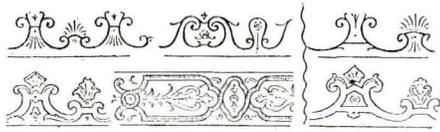
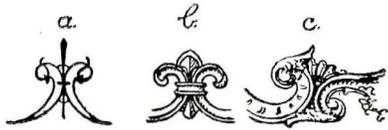

Figure 29
Figure 30.
An interesting subject that has to do with both continuity and contrast is that of "Ties." Elements may be separated, tangent or may cross. In the first case continuity is obtained by a tie which should be either tangent or directly normal to the line of the element, Figure 29. A tie becomes almost necessary when the elements are tangent to each other, Figure 30,* and it is very useful when they interlace, Figure 31 (a'). We have already noted how important it is that they cross at right angles; a glance at Figure 32 is convincing. The only exceptions are derived from cases governed by "suggestion" as when a mosaic pattern seems to so fit together the blocks that make up the design, there can be no impression the pieces are going to slip apart, Figure 31 (b). Two very interesting crossed line designs are shown in Figure 33.
*Figures 30, 31, 35, 37, and 41 are reproduced at somewhat reduced size from "Essentials of Composition," by J. V. Van Pelt, published by The Macmillan Co., New York.
Note—Figures 29, 33, 34, 36, and 38, are from H. Mayeux's "La Composition Décorative."